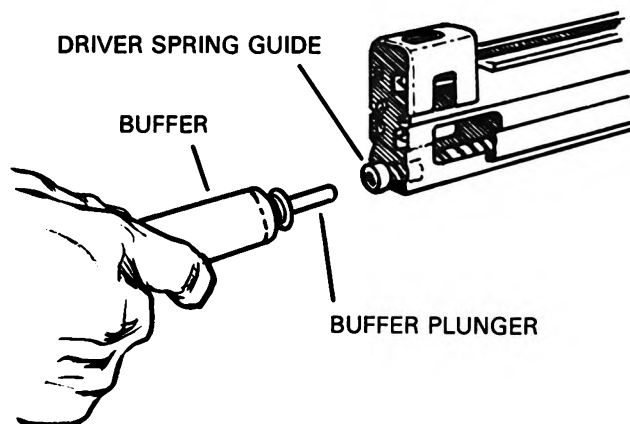

Figure 4. Separating the buffer group (buffer plunger) from the operating group (driver spring guide).
(2) Withdraw the buffer slowly. Allow the driver spring to push out until the end of the drive spring guide is showing at the rear of the receiver (figure 4).
(3) Pull the buffer plunger from the drive spring guide (figure 4).